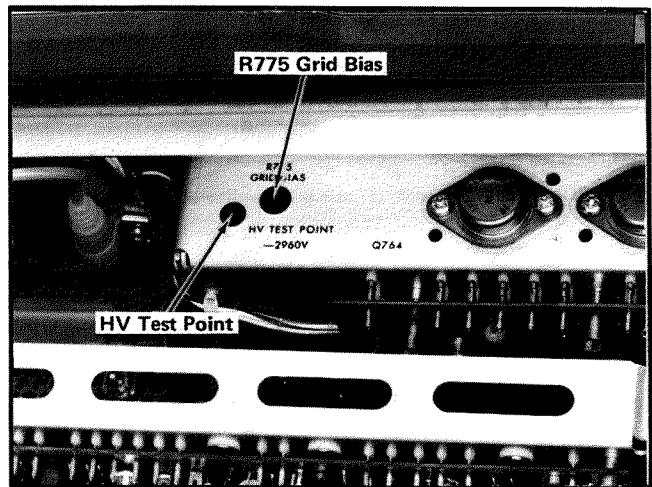

Fig. 5-4. Location of high voltage test point and grid-bias adjustment.
d. ADJUST—R775 (see Fig. 5-4) so the displayed spot is just extinguished. At this point, the CRT is properly biased.
b. Connect a precision DC voltmeter between the high voltage test point (see Fig. 5-4) and chassis ground.